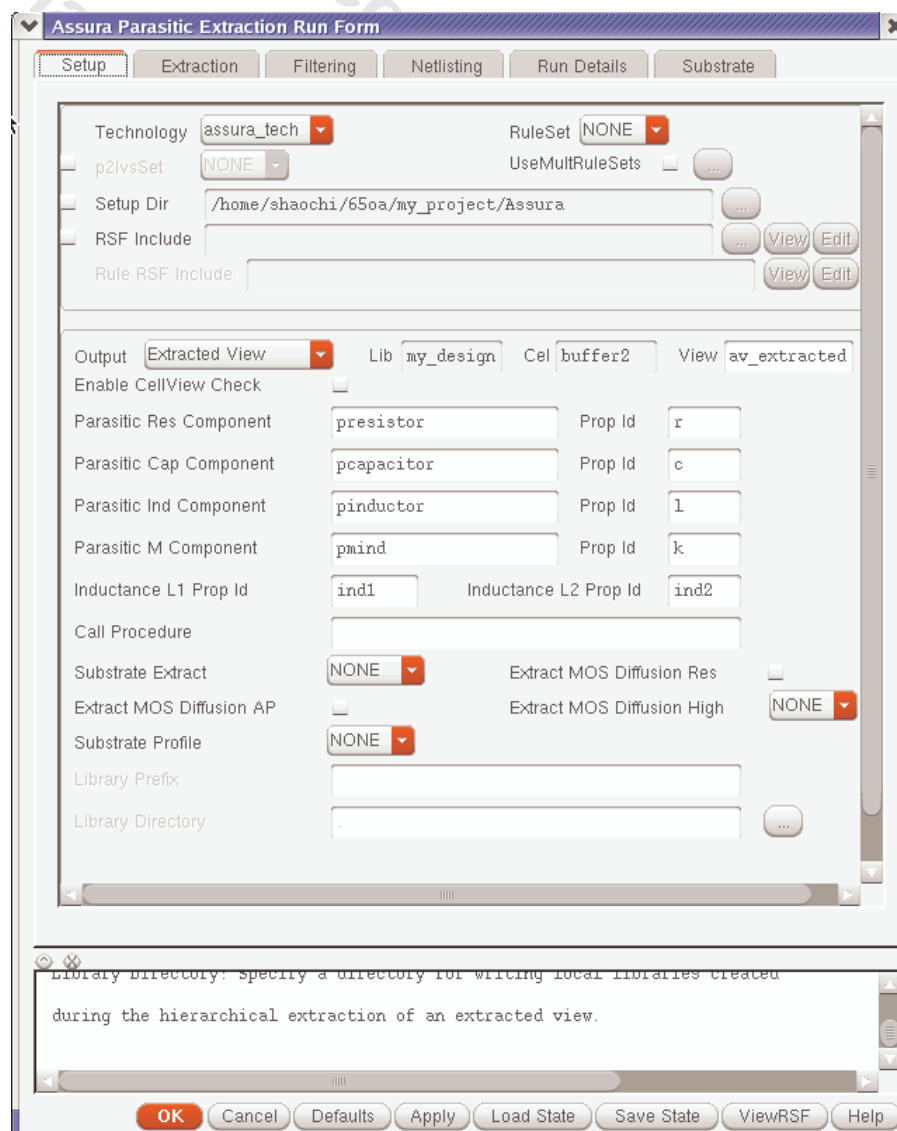

FIG. 38 Setup folder of Assura RCX window
2. Select “Output” to “Extracted View” in “setup” folder of Assura RCX window to output extract result to “av_extracted” view (Fig 38).